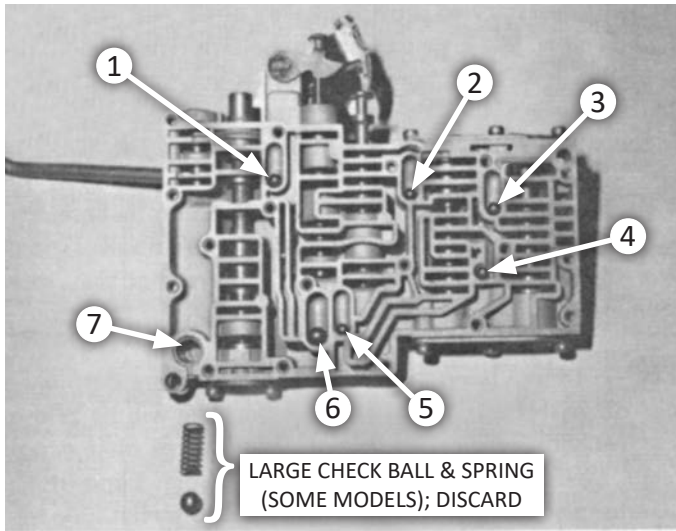

FIG. 6
8. **Note the locations and sizes of check balls** in your valve body casting (Fig. 6):
13. Lay the valve body casting in front of you and install the check balls as follows (Fig. 6):